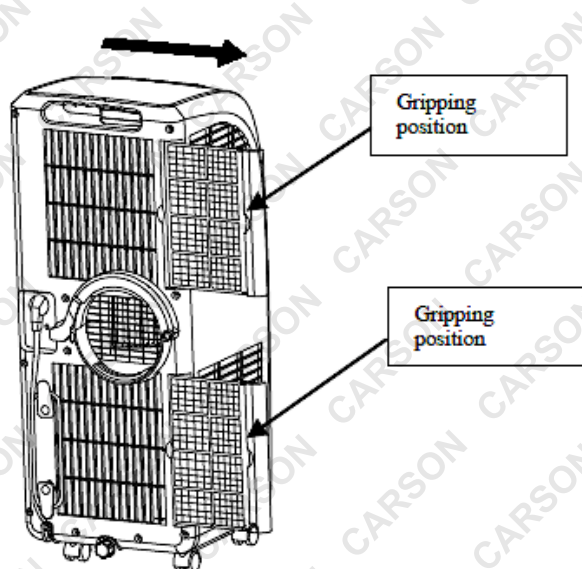

Figure 15
1. Hold onto the gripping position of the evaporator filter and the condenser filter frames and take out the filter frame gently in the direction shown by the arrow (as shown in Figure 15).